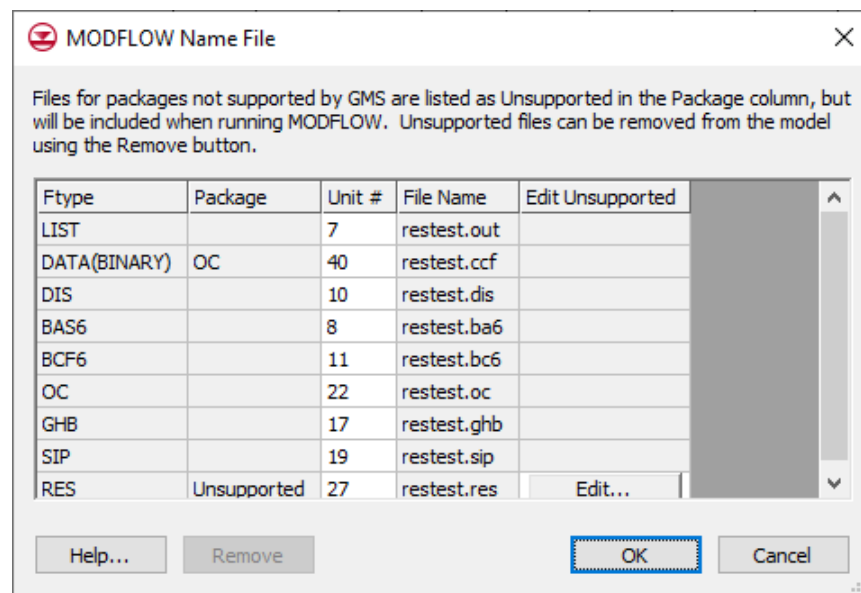

Figure 3 The MODFLOW Name File dialog
1. Select *MODFLOW* | **Name File...** to bring up the *MODFLOW Name File* dialog (Figure 3).